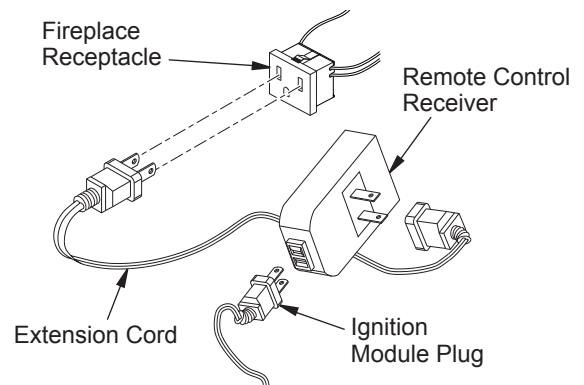

Figure 45 - Installing the WRC Remote Receiver
2. The WRC model receiver does not require a battery. The receiver can be installed by first plugging the short extension cord into the fireplace receptacle. Then plug the receiver unit into the extension cord. Finally plug the ignition module plug into the receiver unit (see Figure 45).